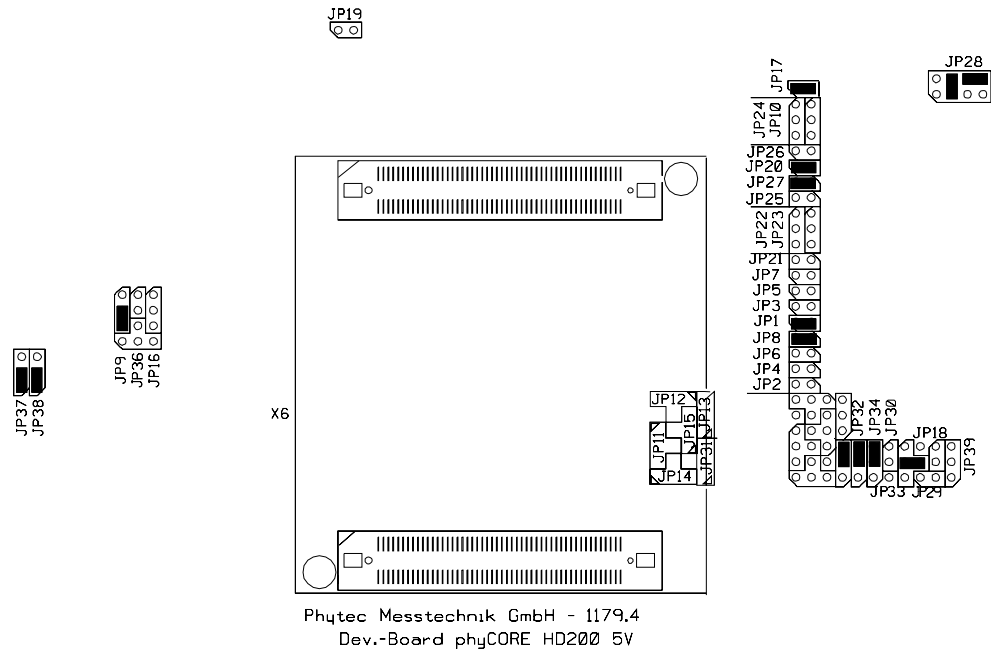

Figure 2: Default Setting for the phyCORE Development Board HD200
- Configure the jumpers on the Development Board as indicated in *Figure 2*. This correctly routes the RS-232 signals to the DB-9 socket (P1A = bottom) and connects the Development Board's peripheral devices to the phyCORE module.